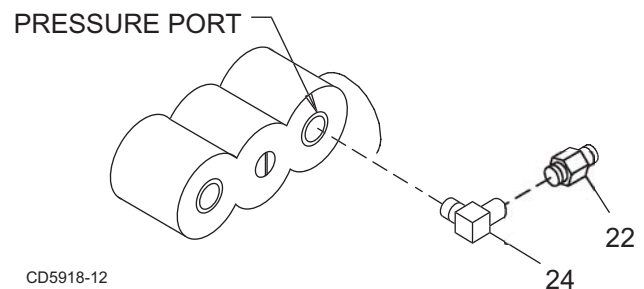

Figure 29 Pressure Fitting Installation
5. Install elbow (24) and adapter (22) to the hydraulic manifold PRESSURE port as shown in Figure 29.